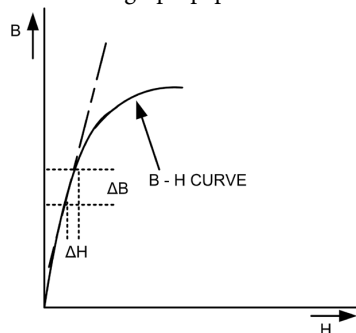

Fig. P1.2: B-H curve
7. Plot the B-H curve and draw a tangent to the linear portion of the B-H curve as shown in Fig. P1.2.